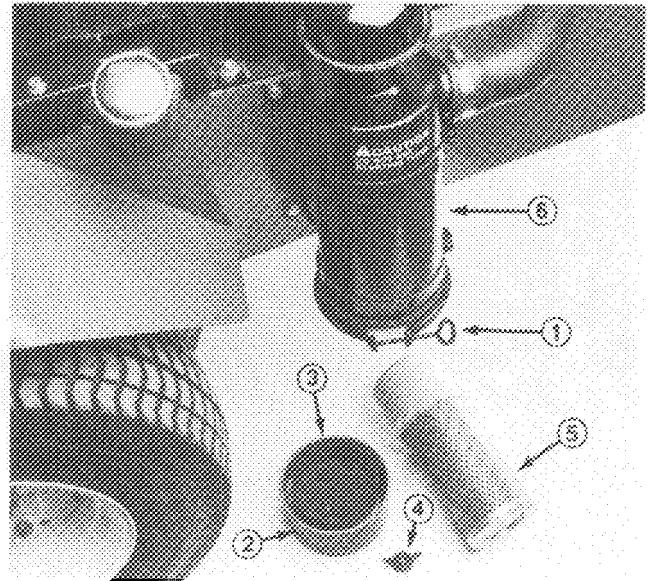

Figure 33
1. Loosen thumb screw until dust cup and baffle can be removed (Fig. 33). Separate dust cup and baffle (Fig. 33).
2. Remove wing nut w/gasket and slide filter element out of air cleaner body (Fig. 33).